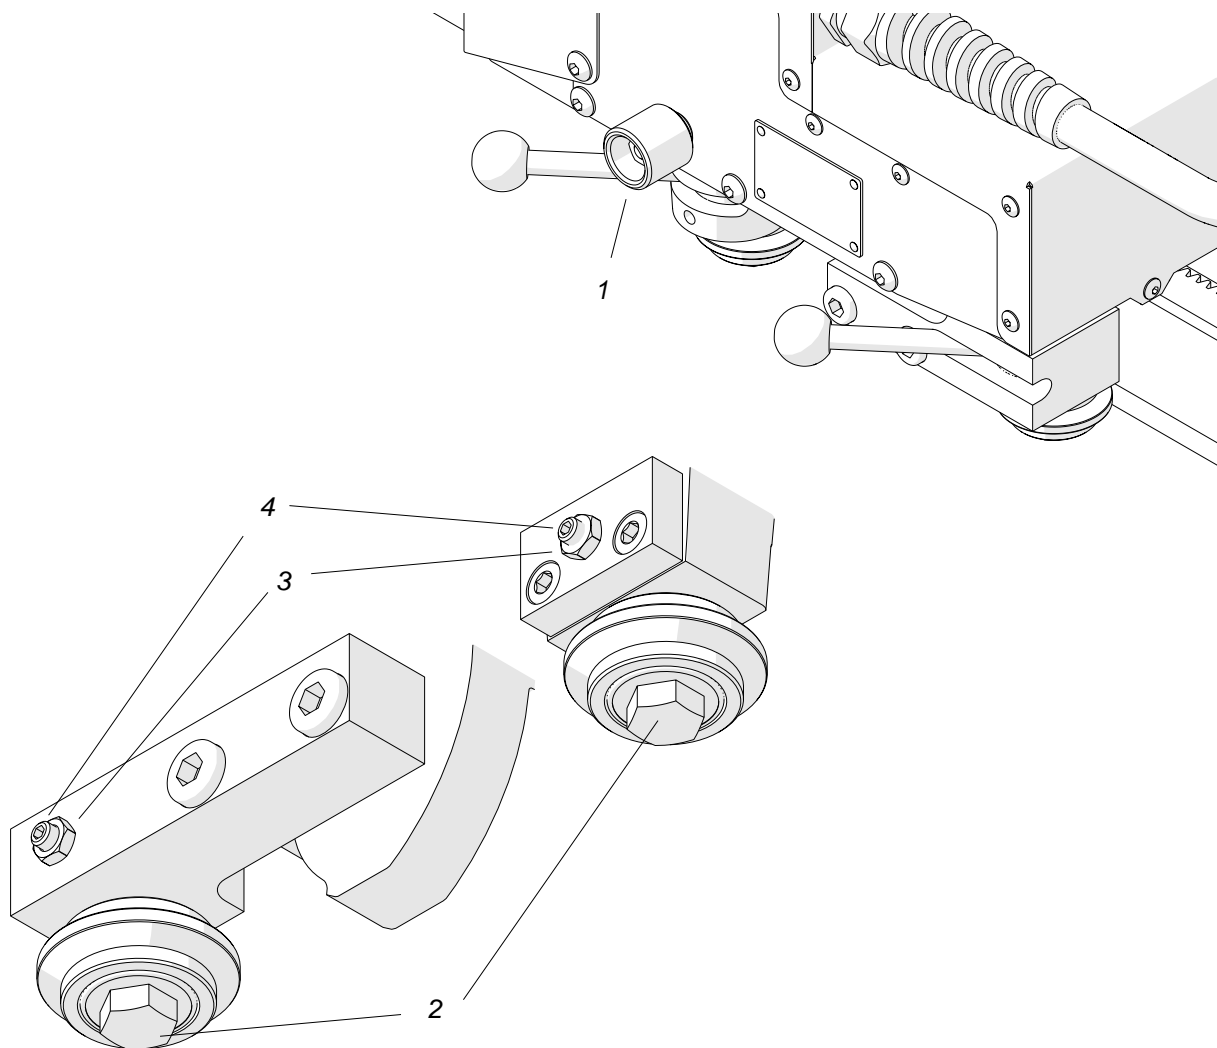

Fig. 13. Adjusting the pressure of rollers
If the resistance during the travel is too little or too much, loosen the knob (1, Fig. 13). At the opposite side of the carriage, use the 13 mm and 8 mm flat wrenches to loosen the bolts (2) and nuts (3). Next, use the 2.5 mm hex wrench to adjust the screws (4), and then tighten the bolts (2).